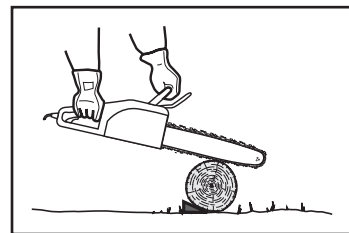

Fig. 12f
- If the wood diameter is large enough for you to insert a soft bucking wedge without touching the chain, you should use the wedge to hold the cut open to prevent pinching (Fig. 12f).